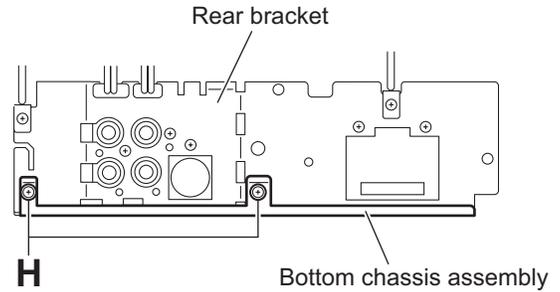

Fig.10
3.1.6 Removing the main board (See Figs.10 and 11)
- (1) From the rear side of the bottom chassis assembly, remove the two screws **H** attaching the rear bracket to the bottom chassis assembly. (See Fig.10)
3.2.6 Removing the front unit (See Figs10 to 12)
- (1) From the bottom side of the mechanism section, remove the double-stick tape fixing the flexible wire. (See Fig.10.)